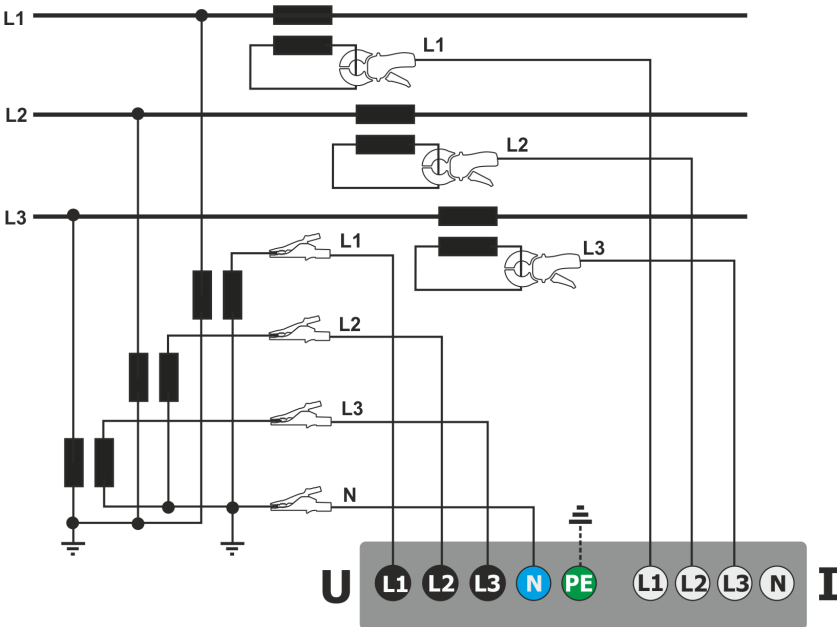

Fig. 63. Wiring diagram – indirect measurement of MV in 3-phase 4-wire system.
- in 3-phase 4-wire system (Fig. 63),